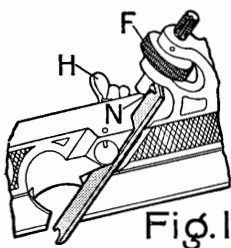

Fig. 1
**Fig. 1—CUTTERS**—To insert a cutter, loosen Cutter Bolt (H) and place cutter in position with slot on Pin (N). Adjust by means of Adjusting Nut (F), then tighten Cutter Bolt (H).